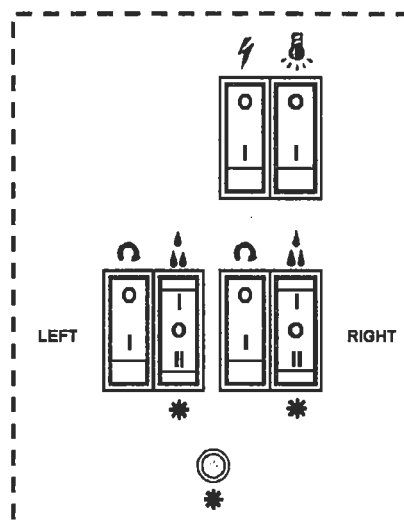

Figure 12
- To operate, press main power switch and agitator switch to ON position (Figure 12). **NOTE: The agitator switch must be to ON position before setting to liquid or slush mode.**